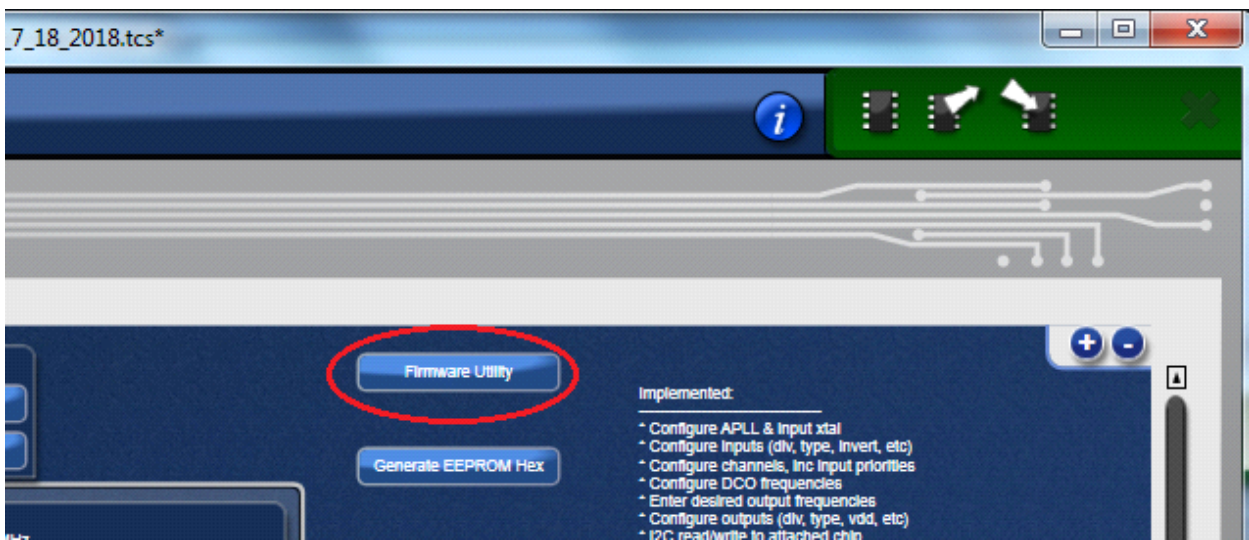

Figure 12. Reading Firmware Version
- Once the connection is made, the firmware version can be read within the GUI. Click the “Firmware Utility” button to bring up the Firmware Utility window, as shown in Figure 12.